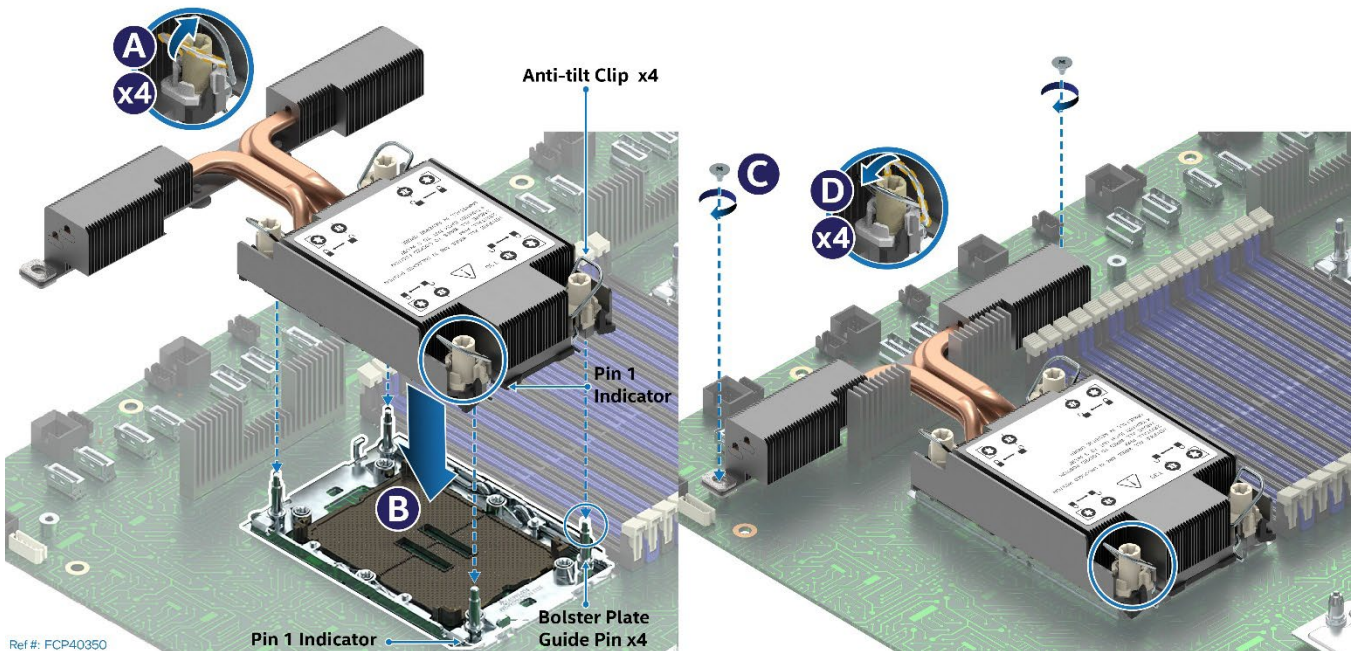

Figure 88. PHM Installation onto Server Board
2. Set anti-tilt wires on all four corners of the heat sink to the inward position (see Letter A in Figure 88).